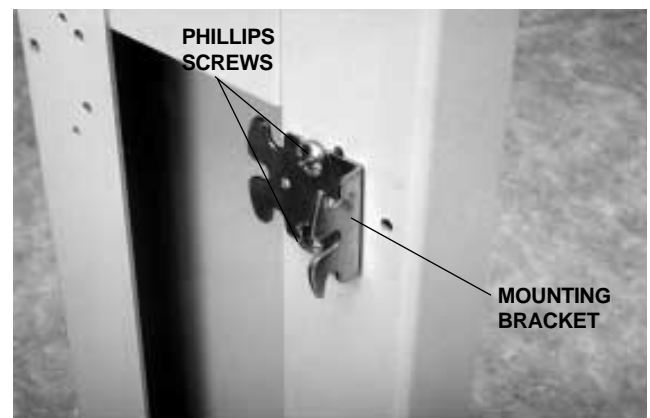

FIGURE 17
5. Use two of the Phillips screws to install a bracket to a column (see Figure 17). Install one panel mounting bracket to each column.